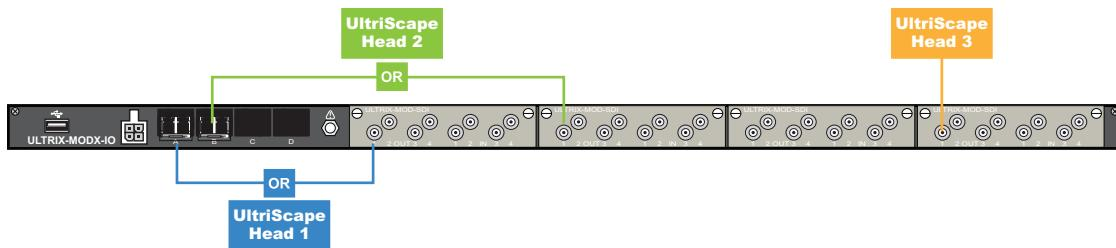

Figure 31 Example of UltriScape Head Mapping on a Single ULTRIX-MODX-IO Blade with Four ULTRIX-MOD-SDI
- One Multiviewer Head (refer to Figure 31)
**Figure 31** illustrates the connections allocated for UltriScape Heads on an ULTRIX-MODX-IO with four ULTRIX-MOD-SDI.